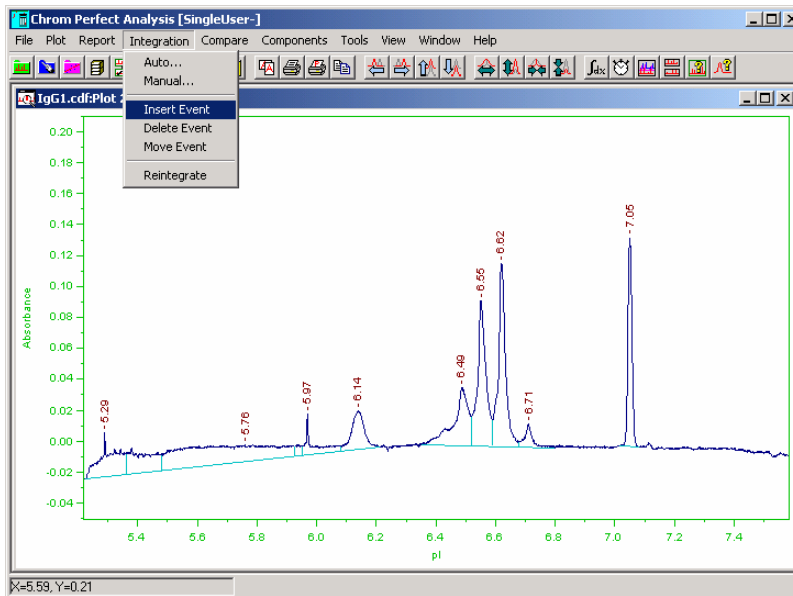

Figure A-7: Inserting an event
5. Adjust parameters of **Peak Width** and **Threshold** and then, click **Apply** button until satisfactory result is achieved (the IgG1 example is shown in Figure A-7).
6. Turn off integration in some regions. This can be done by using **Integration > Insert Event** command as shown in Figure A-7 to open Select Event window.